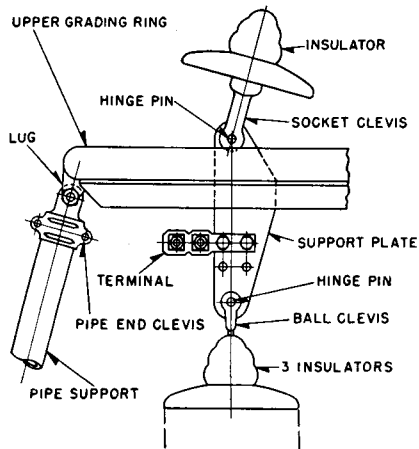
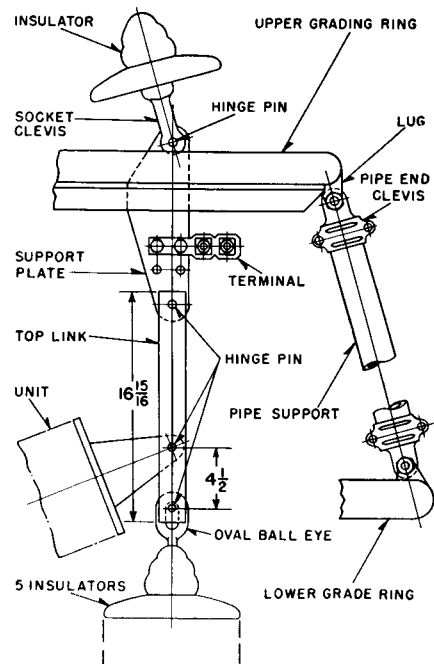

FIG. 2. UPPER GRADING RING ASSEMBLY
FIG. 3. UPPER GRADING RING ASSEMBLY
Upper Grading Ring. The pipe end clevis fittings are clamped to the pipe supports of the upper grading ring assembly. These fittings are bolted to the lugs on the upper and lower rings. The line terminals are bolted to the steel support plate at the holes provided. (See Fig. 2).
3. Add the upper grading ring assembly to the suspension insulator strings by means of the socket clevis fittings. (See Figs. 2 and 3).
5. One leg of the arrester assembly must start with a string of three suspension insulators directly below the upper grading ring. A ball clevis fitting is used to attach the insulator string to the steel support plate (Fig. 2). By means of a hinge pin attach two top links to the other support plate (Fig. 3).
7. To the bottom of the top link add a string of five insulators by means of an oval ball eye. (See Fig. 3).
8. The first arrester unit is attached by hinge pins to the top and middle links at the holes provided. (See Figs. 3 and 4).